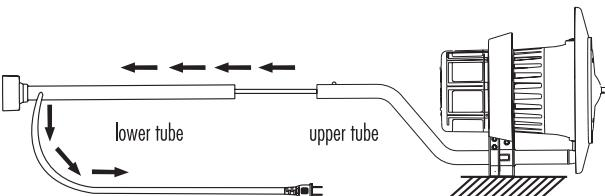

Figure 2
2. Insert upper and lower tubes and press the spring bulge to ensure both tubes are securely placed, as in Figure 2.